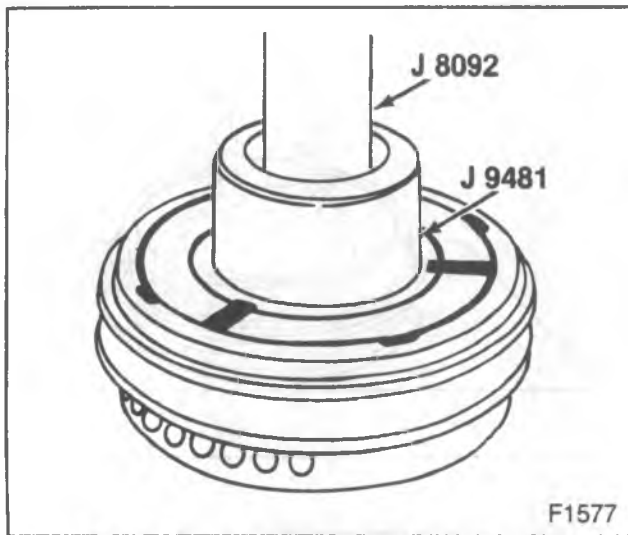

Figure 10—Installing the Pulley Bearing
1. Bearing (5) to the pulley (6) with J 8092 and J 9481-A (figure 10).
2. Retainer ring (4) to the pulley (6).
3. Pulley (6) and bearing (5) to shaft (38) with J 8092 and J 9481-A.
4. Retainer ring (4) to pulley (6) and bearing (5).
5. Pulley retainer ring (3) with J 0435.